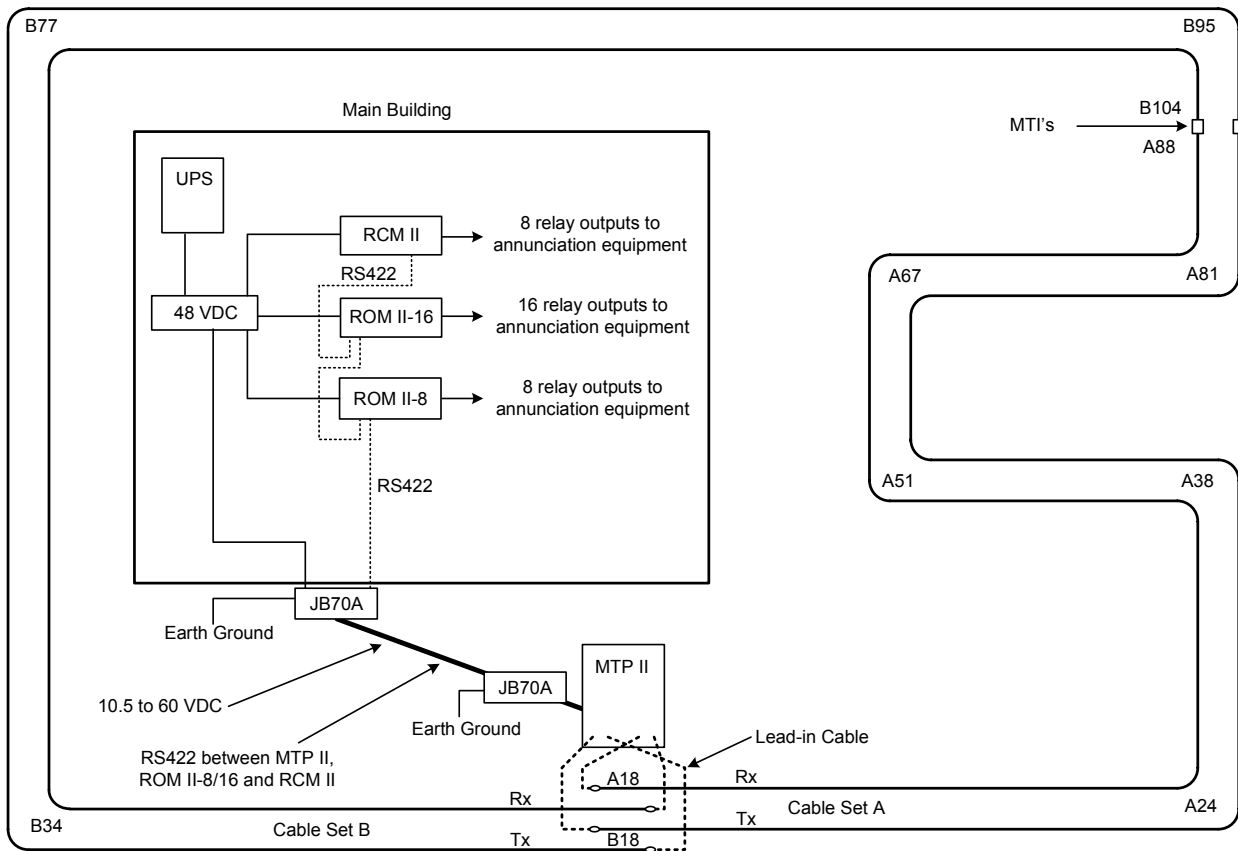

Figure 4.1 - Example of a Fully Configured Stand Alone MicroTrack II System
Figure 4.1 shows a fully-configured single MicroTrack Processor II (MTP II) with two cable sets, marked “Cable A” and “Cable B”, forming a closed loop around a building. The two cable sets are overlapped at the MTP where the detection field’s first form and they are joined at the MTI’s where the detection fields are diminished. This provides a continuous, closed detection field around the entire perimeter. The corners are marked with references such as B77, or A81. This refers to the position along the cable. For example, A81 means “Cable A, cell 81”. Since each cell is a separate, adjustable zone that is only approximately 7.5 feet (2.3 meters) long, it allows for easy software zoning and full control of the perimeter. *Note that Cable A and Cable B transmit and receive cables are in line with each other. They can not be installed transmit to receive.*
There is one (1) Relay Control Module II (RCM II) attached that will be the controller (poll master) to monitor alarms from the MTP II and provide relay outputs and two (2) Relay Output Module II (ROM II) devices for relay outputs to annunciating equipment. If an alarm is detected, the appropriate output relay(s) will respond as programmed. The MTP II will report each cell independently to the RCM II, which allows the RCM II to be programmed with any zoning required, up to 32 zones. A typical example from Figure 4.1 is to assign zone 1 to be Cable A from cell 18 to 24 (shown as A18 – A24 in the drawing) and assign this zone to RCM II- relay output 1. A PC running an alarm monitoring program such as the Perimeter Security Manager or the GCM II can be substituted for the RCM II for graphic alarm annunciation.
If a PC with a GUI interface to the MicroTrack™ II Customer Development Document is to be used, such as Perimeter Security Manager or the GCM II, the RCM II can not be used as shown in Figures 4.1 or 4.2. Only one (1) “Poll Master” can be connected to the system. This PC would be connected to the RS422 communications line. A RS422 to RS232 data converter may be required or a RS422 expander board installed in the PC.